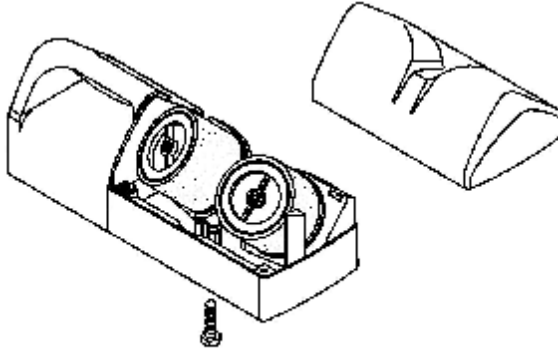

Fig. 1
(See fig 1 on page 6)
- 1) Remove the top cover by unscrewing the inset hand screw. (see fig 1 on page 6)